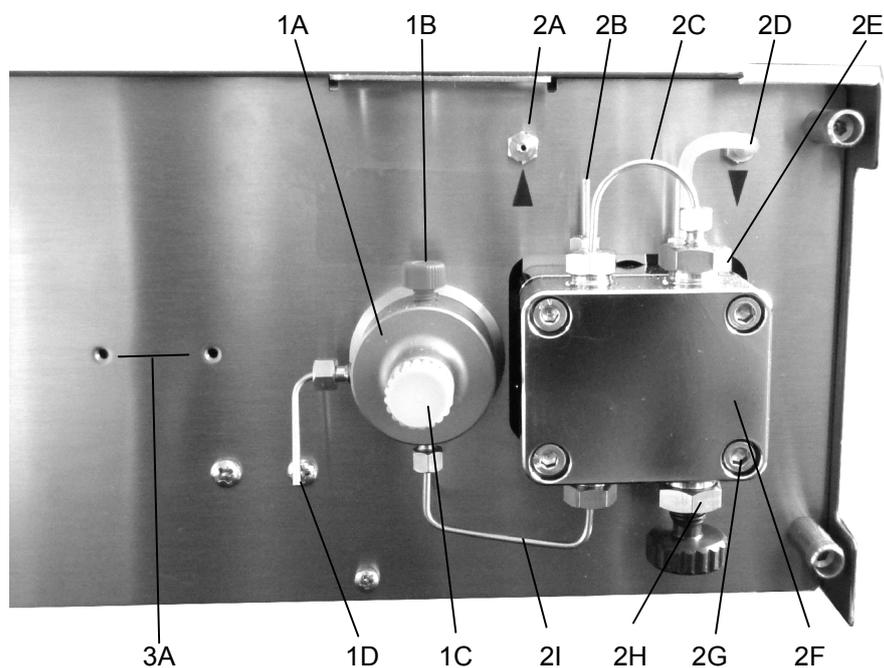

Fig. 3. Pump head and pressure transducer with purge valve.
wash seals). The pump head, all hydraulic connections including those of the optional integrated mixing chamber are located on the front side of the LC 110S behind the door (see the photo on the previous page). For information how to connect all eluent tubing to the pump head as well as on how to remove see the next chapters. The possibility exists for a static mixing chamber to be affixed to the metal plate behind the front door of the pump. The mounting threads (item 3A in Fig. 3) are used for this purpose. Antec recommends using an eluent mixer with all gradient systems.